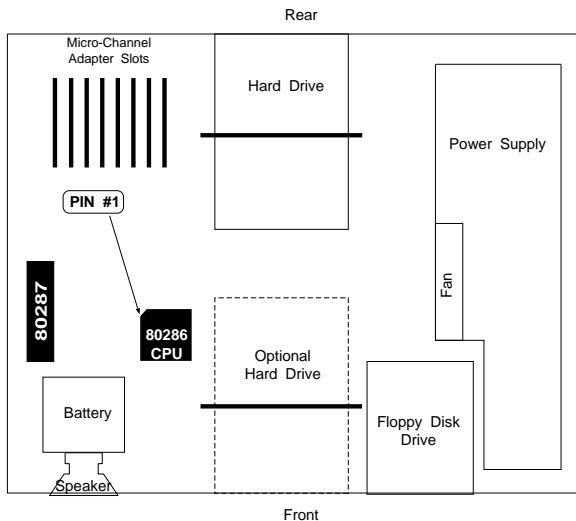

Figure 7. IBM PS/2 Model 60
11. If you have an 80287 coprocessor installed, this must also be removed. Locate the 80287 coprocessor as shown in figure 7 and insert the IC removal tool under the corner of the chip. Gently pry upwards, repeat for all 4 corners. Once the pins have been sufficiently exposed remove with your fingers. (Save the 80287 microprocessor in the event you need to temporarily return to the old configuration.)